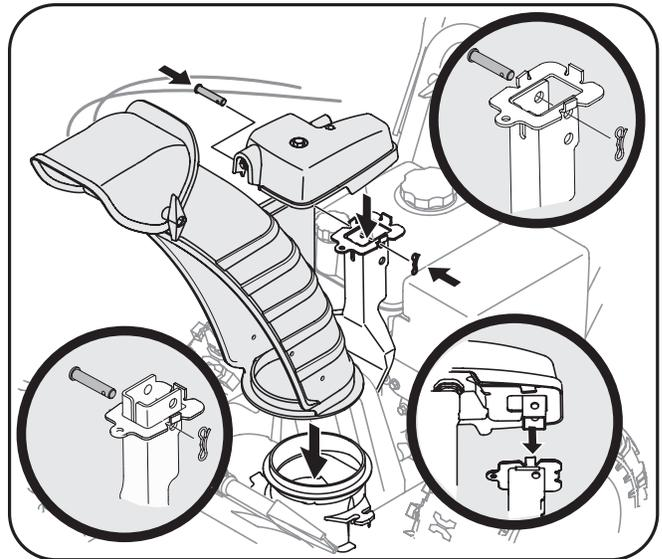

Figure 3-6
- Place chute assembly onto chute base and secure chute control assembly to chute support bracket with clevis pin and cotter pin removed earlier. See Fig. 3-6.